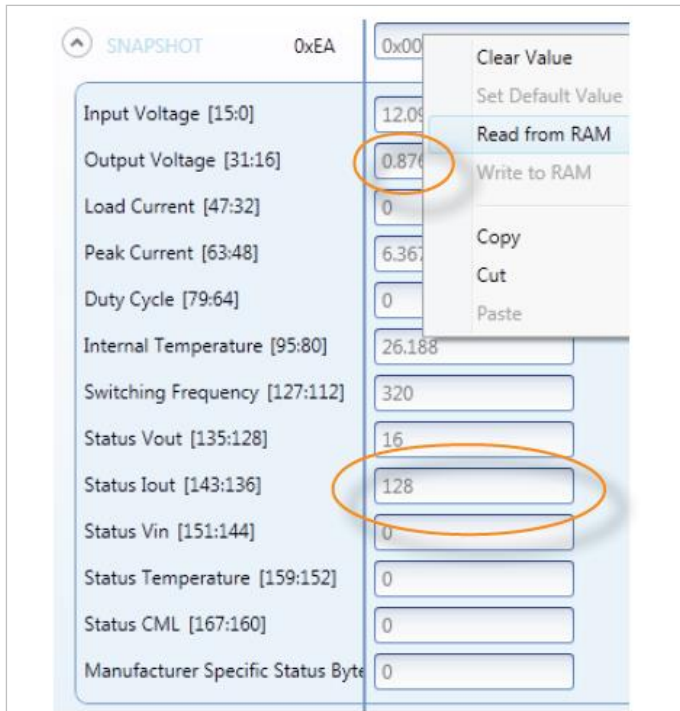

Figure 7: Read of SNAPSHOT command after restoring from NVM
- The snapshot data we are looking for is now in RAM and we can read the SNAPSHOT command to find out status and parameters from the fault moment, see Figure 7. For example we can see a fault indication is set in Status Iout field and that the output voltage had dropped to 0.87V when snapshot was captured.